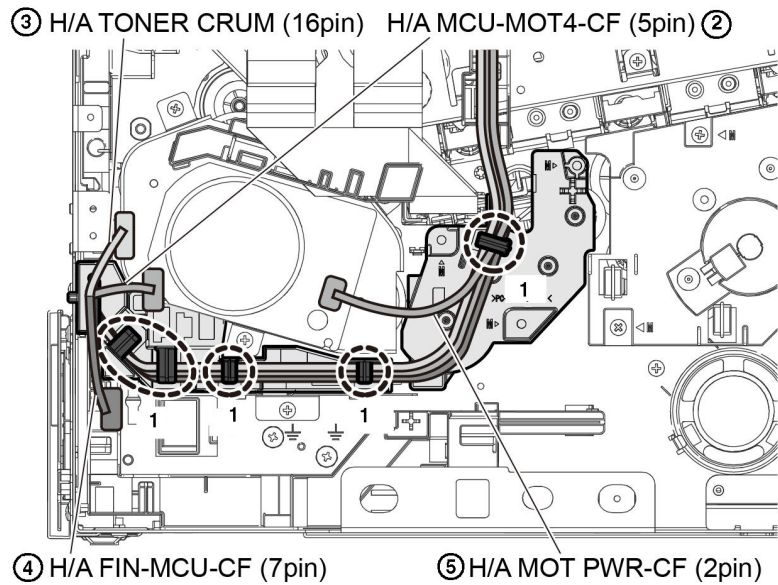

Figure 2 AC harness guide harnesses
29. Release the harnesses from the AC harness guide (1), **Figure 2**:
- Disconnect the MCU-MOT4-CF harness assembly (2), (PL 3.1 Item 11).
- Disconnect the toner CRUM harness assembly (3), (PL 5.1 Item 10).
- Disconnect the FIN-MCU-CF harness assembly (4), (PL 18.8 Item 10 / PL 18.12 Item 10).
- Disconnect the MOT PWR-CF harness assembly (5), (PL 3.1 Item 8 / PL 3.2 Item 8).